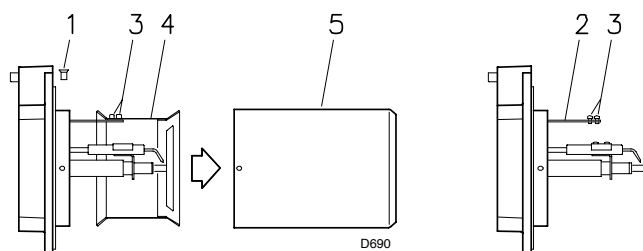

Fig. 10
- Unscrew the screws 1)(Fig. 10) and disassemble the blast tube 5).